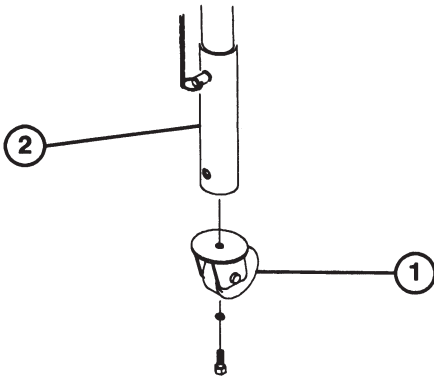

Figure 8
4. Mount the castor wheel to the rear castor/safety stand tube with the previously-removed bolt and washer (Fig. 8).